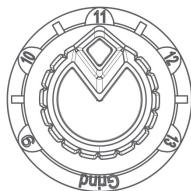

FIG. 1B
Darkness Selection (Fig. 1B)
- Striking the arc, the observing window darkens immediately. At this moment, according to the technical requirement, you can adjust the darkness knob (Fig. 1B) in the direction as shown by the arrow to select the optimum darkness. Refer to the "Recommended Shade Numbers" table.